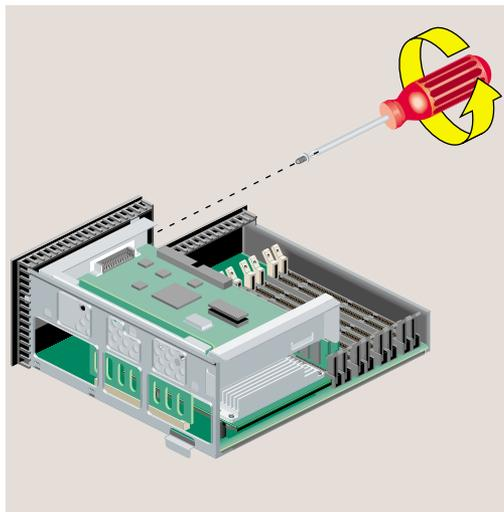

Figure 2-26 Securing the PCI Board
4. Insert and tighten the screw that secures the PCI board (Figure 2-26).